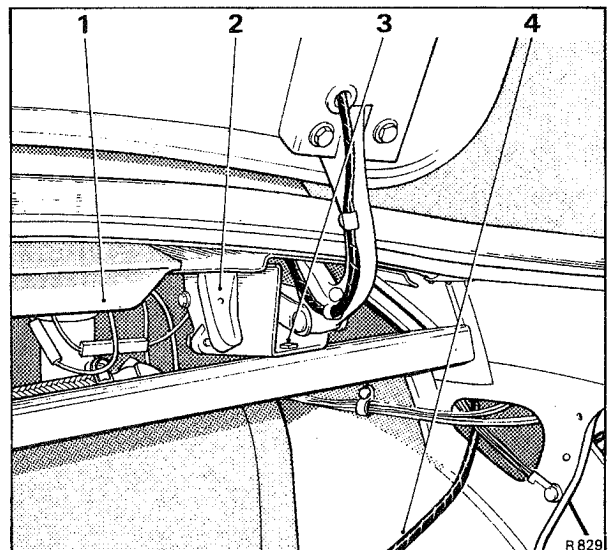
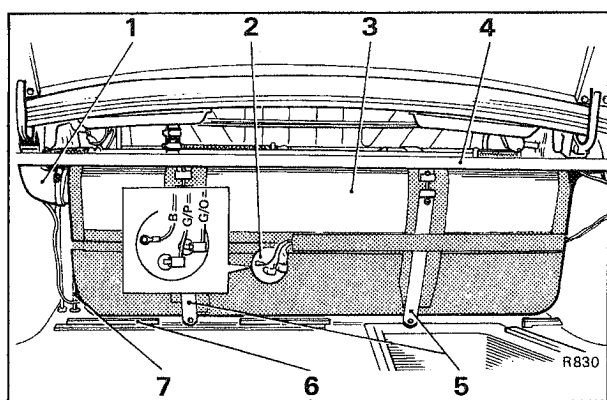

Fig. K7 Luggage compartment lid hinge assembly
Fig. K8 Fuel tank fittings
6. Remove the crossmember (see Figs. K7 and K8); this is secured by a $\frac{7}{16}$ in. A/F nut, bolt and washer to the bottom of each luggage compartment lid hinge assembly.
7. Disconnect the three electrical cables from the fuel tank level gauge (see Fig. K8).
10. Unscrew the worm drive clip securing the rubber filler neck hose to the fuel tank (see Fig. K8); withdraw the hose.
5. Fit the 4,8 mm. ($\frac{3}{16}$ in.) internal diameter rubber hose to the metal pipe situated on the left-hand side of the luggage compartment. This pipe is situated adjacent to the panel dividing the luggage compartment from the car interior (see Fig. K8).
6. Fit the sound proofing panel to the fuel tank and secure in position with tape (see Fig. K8). In addition, fit two pieces of tape around the fuel tank so that the securing straps will sit on the tape when the tank is secured in position (see Fig. K8).
9. Secure the fuel tank in position as follows (see Fig. K8).
17. Fit the crossmember (see Fig. K8), attaching it to the bottom bracket of each of the two luggage compartment lid hinge assemblies with a $\frac{7}{16}$ in. A/F bolt, washer and nut (see Fig. K7).
Tap the cables across the fuel tank until they are adjacent to the fuel gauge sender unit, as shown in Figure K8.
19. Connect the cables to the fuel gauge sender unit as shown in the inset of Figure K8.
20. Locate the base of the carpet covered panel into the wooden runner slots (see Fig. K8) and secure the top of the panel with four Pozidriv screws and washers to the crossmember.